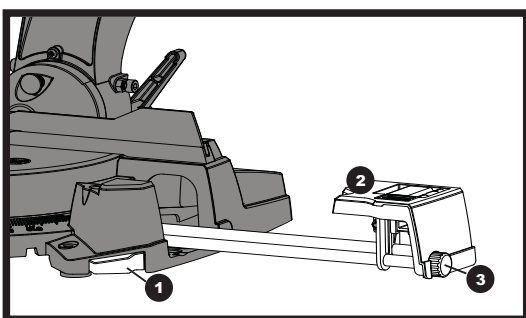

Fig 38
Turn the adjustment knob (3) clockwise or counter clockwise as required for final exact positioning of the stop plate. (See fig. 38)
With the stop plate in its stored position the extension arm can be used to support long workpieces. (See fig. 38)